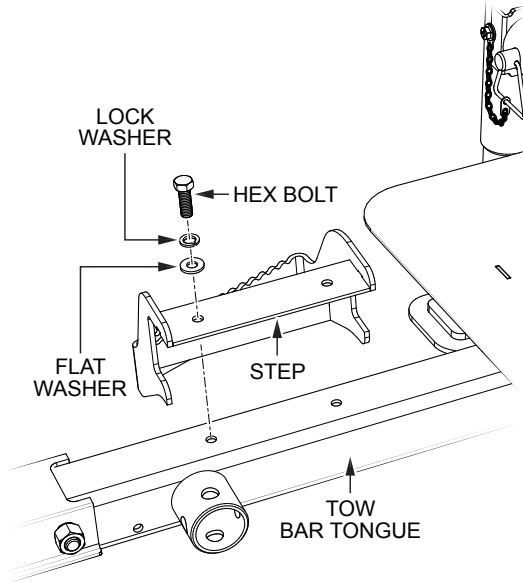

**Figure 4. Front Jack Stand Removal**
2. Once the tow end of the light tower has been supported by the left and right outrigger jack stands, remove the **cotter pin** from the locking pin hole as shown in Figure 4.
3. Next, remove the locking pin (Figure 4) from the jack stand support hub, Set locking and cotter pins aside.